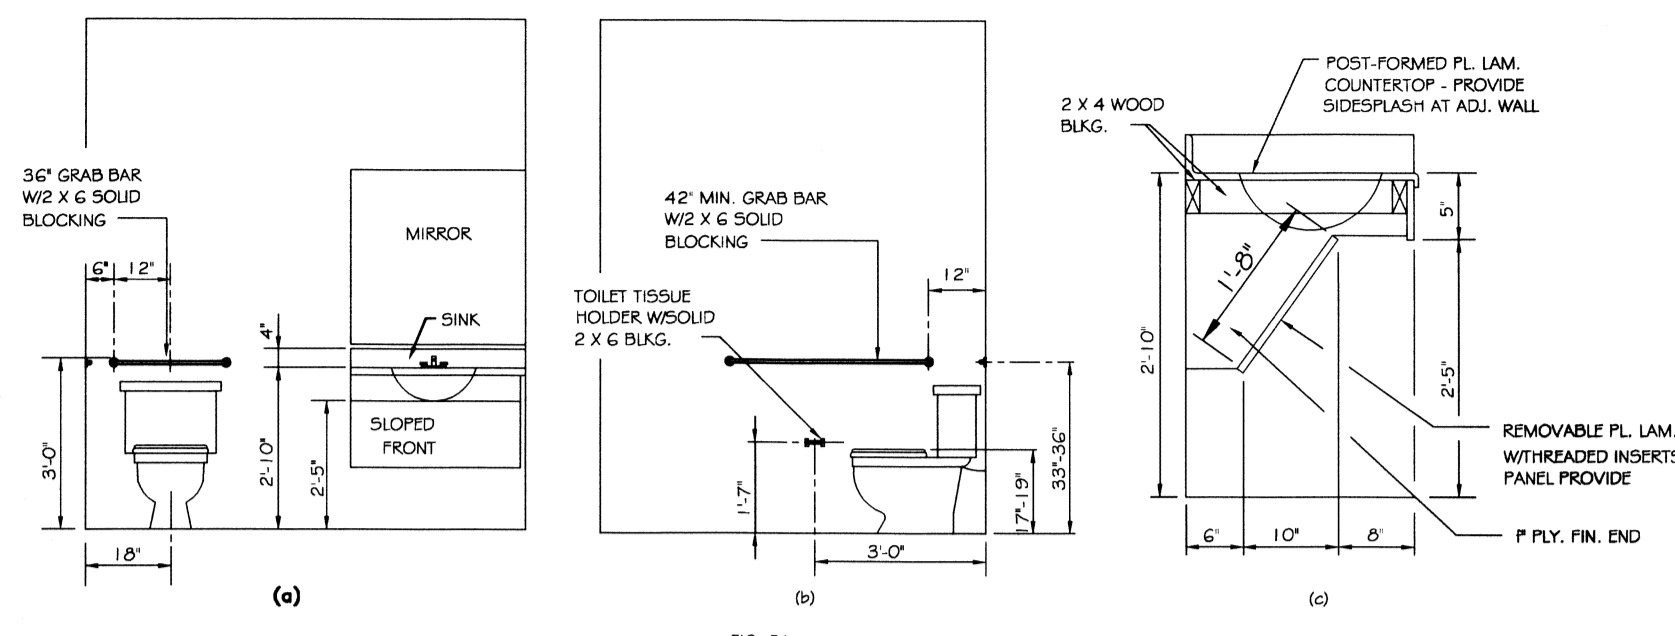

FIG. 31 LAVATORY & WATER CLOSET CLEARANCES
- 4.16.3 HEIGHT. THE HEIGHT OF WATER CLOSETS SHALL BE 17" TO 19" (430mm TO 485mm), MEASURED TO THE TOP OF THE TOILET SEAT. SEATS SHALL NOT BE SPRING TO RETURN TO A LIFTED POSITION (SEE FIG. 31).
- 4.16.4 GRAB BARS. GRAB BARS FOR WATER CLOSETS NOT LOCATED IN STALL SHALL COMPLY WITH 4.2.6 AND FIG. 31. THE GRAB BAR SPRING THE WATER CLOSET SHALL BE 3/8" (9.5mm) MINIMUM.
- 4.16.6 DISPENSERS. TOILET PAPER DISPENSERS SHALL BE INSTALLED WITHIN REACH, AS SHOWN IN FIG. 31. DISPENSERS THAT CONTROL, DELIVER, OR THAT DO NOT PERMIT CONTINUOUS PAPER FLOW, SHALL NOT BE USED.
- 4.17.6 GRAB BARS. GRAB BARS MAY BE MOUNTED WITH ANY DESIRED METHOD AS LONG AS THEY HAVE A GRIPPING SURFACE AT THE LOCATIONS SHOWN IN FIG. 31 AND DO NOT OBSTRUCT THE REQUIRED CLEAR FLOOR AREA. GRAB BARS SHALL COMPLY WITH 4.2.6.
- 4.19.2 HEIGHT & CLEARANCES. LAVATORIES SHALL BE MOUNTED WITH THE RIM OR COUNTER SURFACE NO HIGHER THAN 34" (865mm) ABOVE THE FINISH FLOOR. PROVIDE A CLEARANCE OF AT LEAST 29" (735mm) ABOVE THE FINISH FLOOR TO THE BOTTOM OF THE APPROX (SEE FIG. 31).
- 4.19.6 MIRRORS. MIRRORS SHALL BE MOUNTED WITH THE BOTTOM EDGE OF THE REFLECTING SURFACE NO HIGHER THAN 40" (1015mm) ABOVE THE FINISH FLOOR (SEE FIG. 31).
- 4.24.2 HEIGHT. SINKS SHALL BE MOUNTED WITH THE COUNTER OR RIM NO HIGHER THAN 34" (865mm) FROM THE FINISHED FLOOR (SEE FIG. 31).